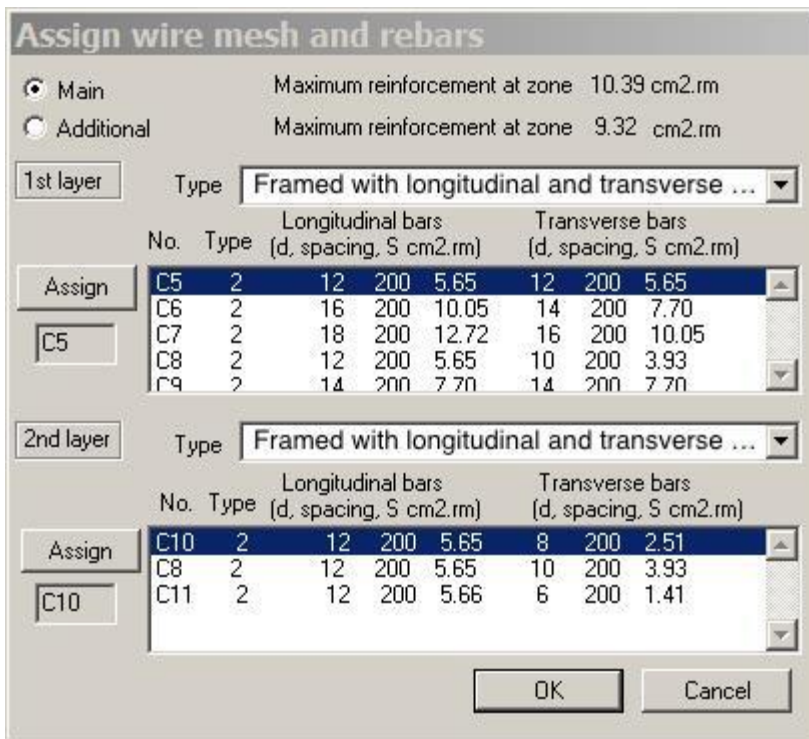

Figure 2.7.10 Assign wire mesh and rebars dialog box
- ⇒ In the **Assign wire mesh and rebars** dialog box (see Fig.2.7.10), do the following: